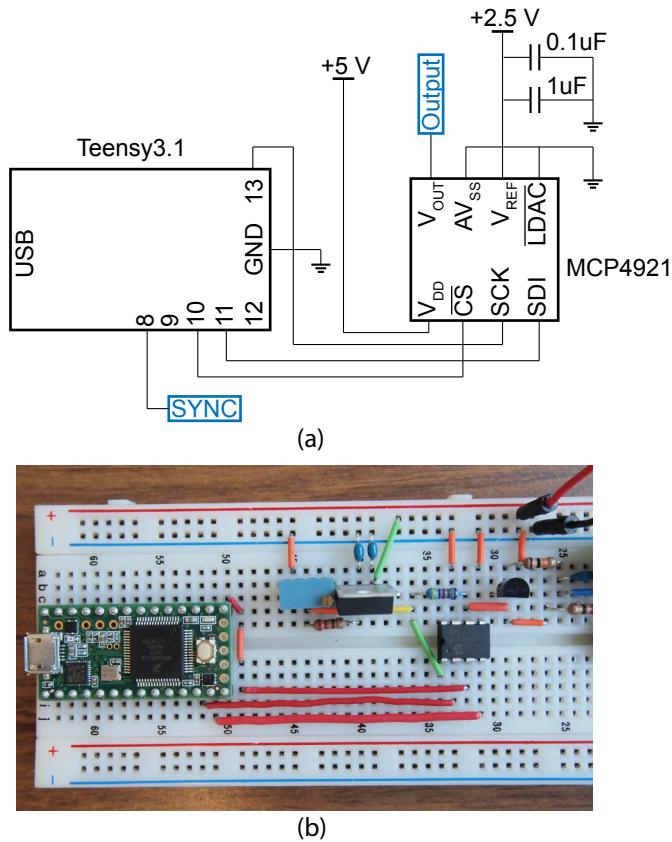

Figure 13: Schematic of the connection between the Teensy 3.1 and the MCP4921.
1. Using Fig. 13-a as a reference, connect the Teensy to the MCP4921 DAC. Connect the MCP4921's VDD pin to the output of the LM317 regulator (5 V). Connect the MCP4921's VREF pin to the LT1009 reference's output (2.5 V). Connect both AVSS and LDAC of the MCP4921 to ground. A 0.1 μ F and a 1 μ F capacitor could be used at VREF to minimize noise at the reference. It is very important to keep your circuit (ICs, resistors, capacitors, wires, etc) organized. Use as short of a wire as possible between two connection points. Refer to Fig. 13-b for an example layout.